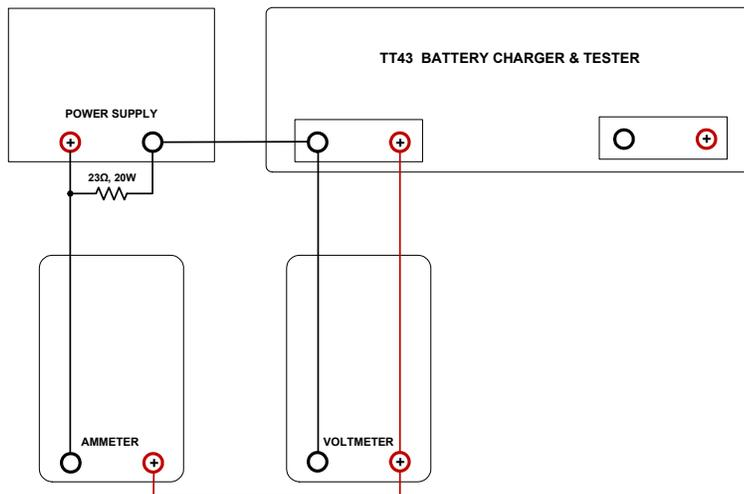

Figure 1: Test Connections
4. Connect test setup per Figure 1: